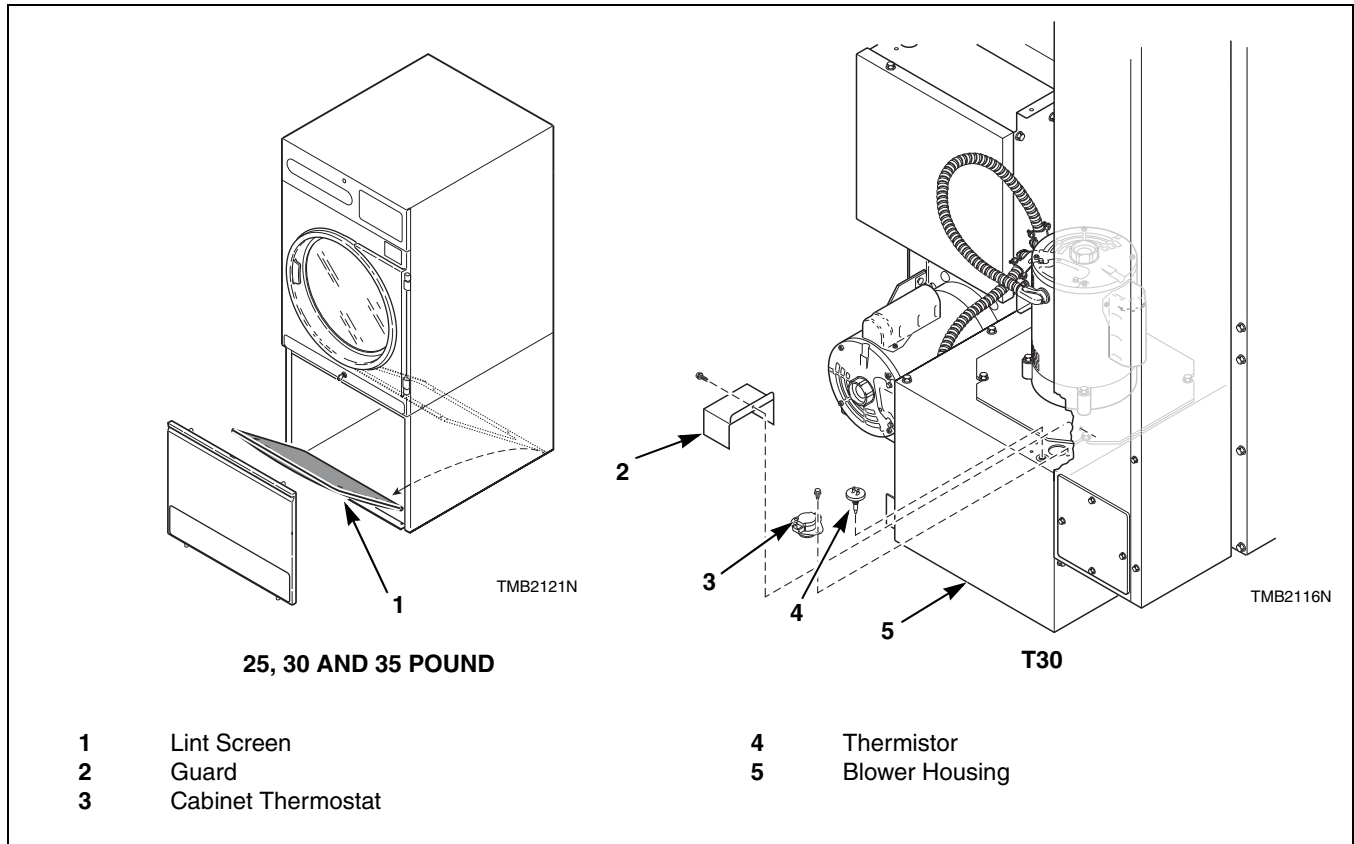

Figure 7
- e. Carefully wipe any accumulated lint off of the cabinet high limit thermostat and thermistor. Failure to do so will allow a buildup of lint in this area to act as an insulator, causing the tumbler to overheat. Refer to *Figure 7*.